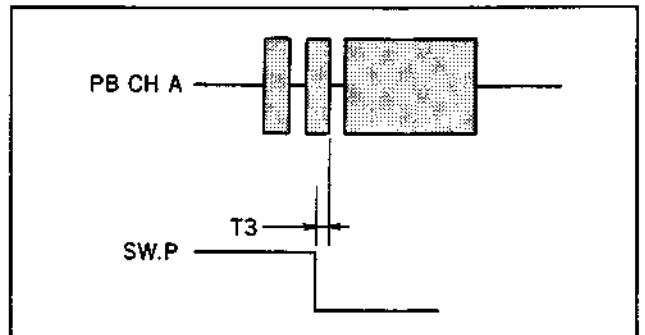

Fig. 6-10-8 Switching position check (PB A)
1. If specifications 4 is not satisfied in the check in 6-10-6, perform the following adjustment. (See Fig. 6-10-8.)